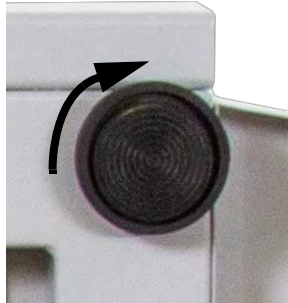

Figure 2-2. Secure Scale Platform Feet
2. Rotate the four round feet clockwise into the scale base until secure as shown in Figure 2-2. Feet are secure when no mechanical binding is present.